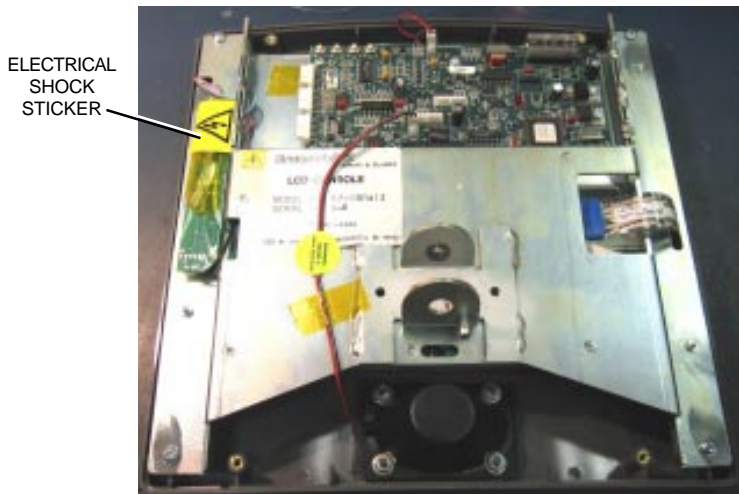

Figure 12
9. To prevent and indicate an electrical shock hazard, the electrical shock hazard sticker, part number 11-681156-000, included with this Bulletin, must be placed on the cellophane in the appropriate area as shown in *Figures 12 and 13.*